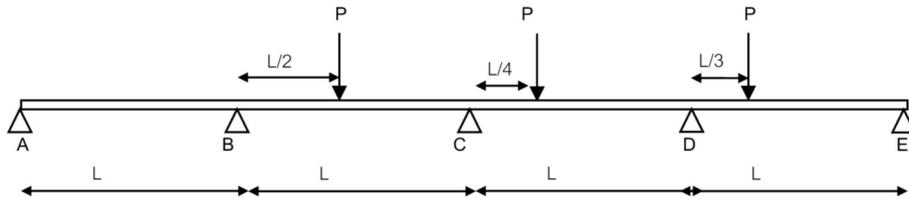

Figure Q.3
- 3 The continuous beam shown in Figure Q.3 has four equal spans. The plastic moment capacity of the beam is M_p .